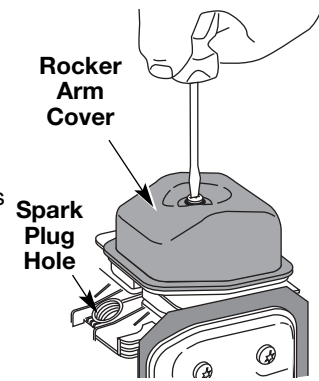

Fig. 42
7. Clean dirt from around the rocker arm cover. Remove the screw holding the rocker arm cover with a large flat blade screwdriver or Torx T-25 bit (Fig. 42). Remove the rocker arm cover and gasket.
- The piston is at the top of its travel while looking in the spark plug hole (Fig. 42)